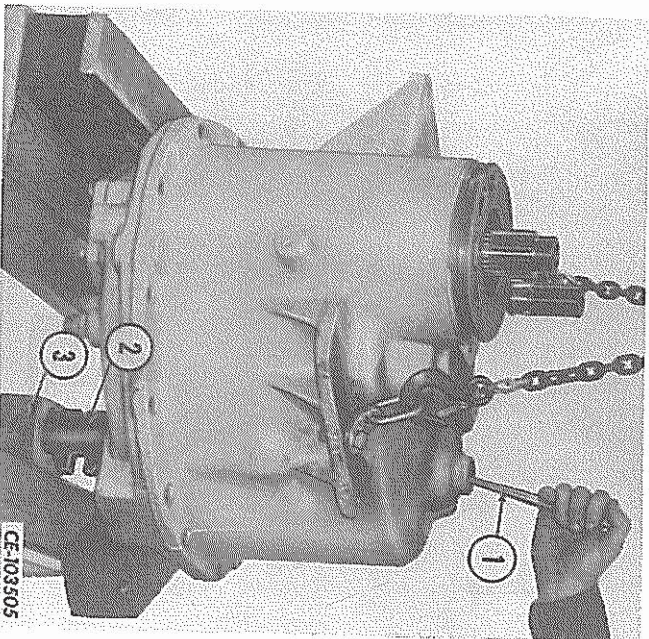

FIG. 81 — Installing the Transmission Case
NOTE: To properly seat the rear bearings as the transmission case is lowered into position, remove the 3/4 inch plug from the transmission case that is over the reverse clutch shaft. Use a drift (1) through this opening as shown in Fig. 81 to guide the case over the shafts for bearing alignment. Install the plug after the case is secured to the cover.
48. Place a jack or blocks (3, Fig. 81) under the hi-lo shifter shaft (2) to raise the shaft to its highest position (Fig. 81). Then install a
new transmission cover gasket. Begin to lower the transmission case over the four shafts. The case should be lowered so that the hi-lo shifter shaft starts into the hole provided for it in the transmission case. Then continue to lower the transmission case until it rests against the top of the shafts (Fig. 81). Secure the case to the cover with capscrews, washers and nuts.